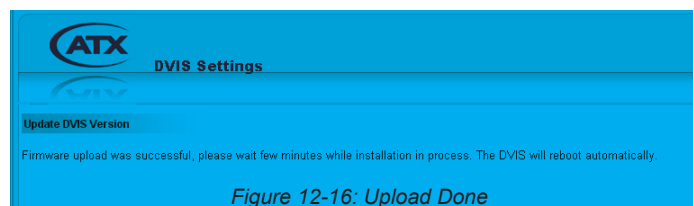

Figure 12-16: Upload Done
2. Click **Update** to begin uploading the file to the unit. A progress bar indicates the percentage completion (0 to 100%) but it happens very fast so it is easy to miss. When the upload is finished, the 'Upload Done' page appears in the web browser as shown in Figure 12-16 and file installation begins automatically.